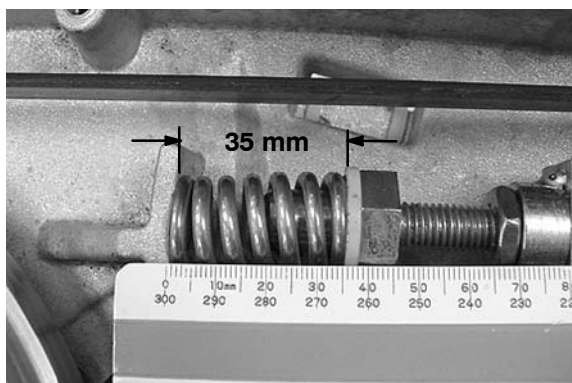

FIG. 65
- To properly adjust the belt tension, turn the belt tension bolt until the tension spring is compressed to a length of 35mm (Figure 65). Tighten the tension bolt jam nut after adjusting.